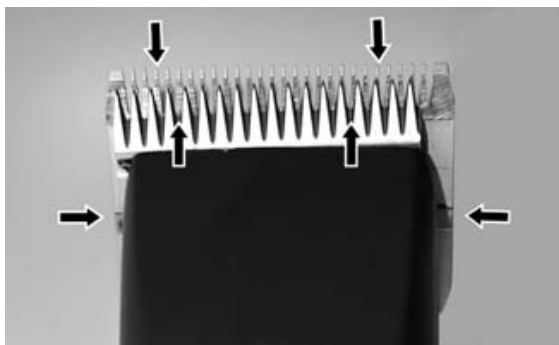

fig. 22
To receive good clipping results and to increase the durability of the clipper and the clipperhead, it is necessary to apply a thin oil coat between top and bottom blade (fig. 22).
- Lubricate the blades sufficiently during the clipping (at least every 15 minutes), so that they do not drain (fig. 22).
The blades must be oiled before, during and after every use. When the blades of the clipper are leaving stripes or are running with reduced speed, this is a signal that oil is required. Place a few drops of oil ahead and laterally on the clipper blades (see arrows in fig. 22). Wipe off the excessive oil with a smooth, dry cloth. Lubrication sprays do not have sufficient oil for a good lubrication, but serve for cooling the blades. Immediately change damaged or crentated blades to avoid injuries.